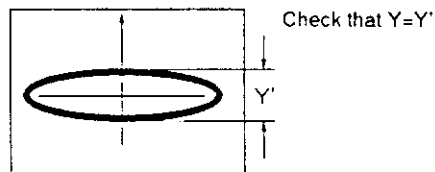

Fig. 2 Lissajous figure of the outer track of the disc (CD)
5. Close the TRKG servo and search for frame #100, then open the TRKG servo again to observe the Lissajous figure. At this time, check that the Y-axis amplitude of the Lissajous figure is the same as that noted in step 4. (Fig. 2)